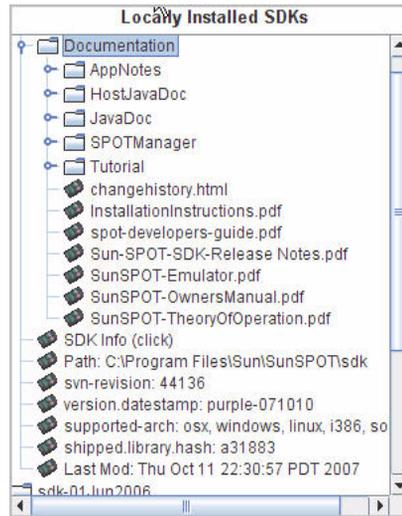

FIGURE 7 A Sun SPOT SDK node expanded
- Comment** Allows you to add a comment line to the SDK. This will be displayed when the SDK node is expanded as shown in FIGURE 7 above.